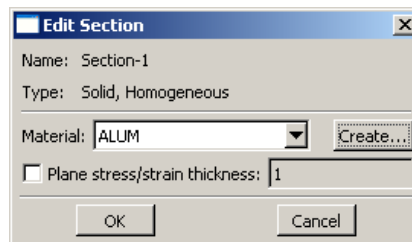

Figure 9. Edit Section Dialog Box
- The **Edit Section** dialog box will then appear where a **Material** can be prescribed for this section. Because only one material has been created, the **Material:** is defaulted to **ALUM**. If multiple materials had been created, the dropdown menu could be used to prescribe a different material to this section. The **Edit Section** dialog box should look similar to that in Figure 9.